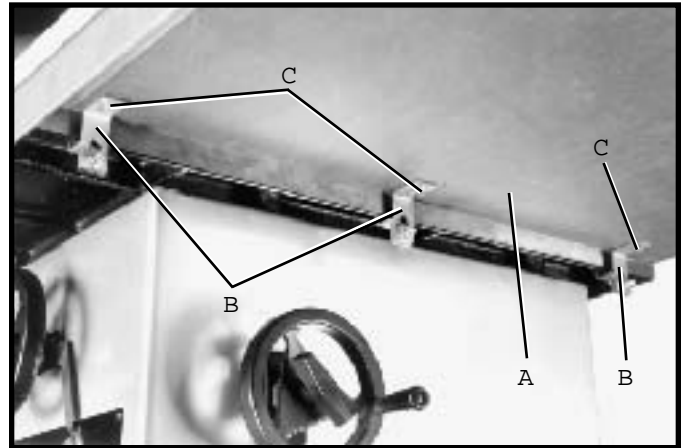

Fig. 52
2 While holding table board firmly against the saw table, fasten table to three angle brackets (B) Fig. 52, using three #8 x 7/8" long wood screws (C). CAUTION: DO NOT OVER-TIGHTEN TABLE MOUNTING SCREWS. Over-tightening screws in particle board may cause them to strip.